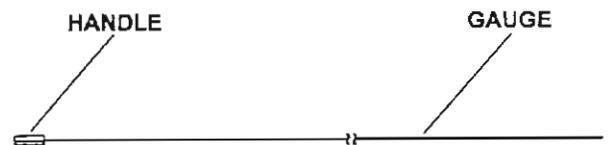

Figure 1-4. Flexible test gauge.
(3) *Flexible test gauge (fig 1-4)*. The flexible test gauge is a thin, spiral wire used to test the integrity of the channel. A cylindrical handle is molded onto one end for grasping. The flexible test gauge is stored in a circular plastic housing.